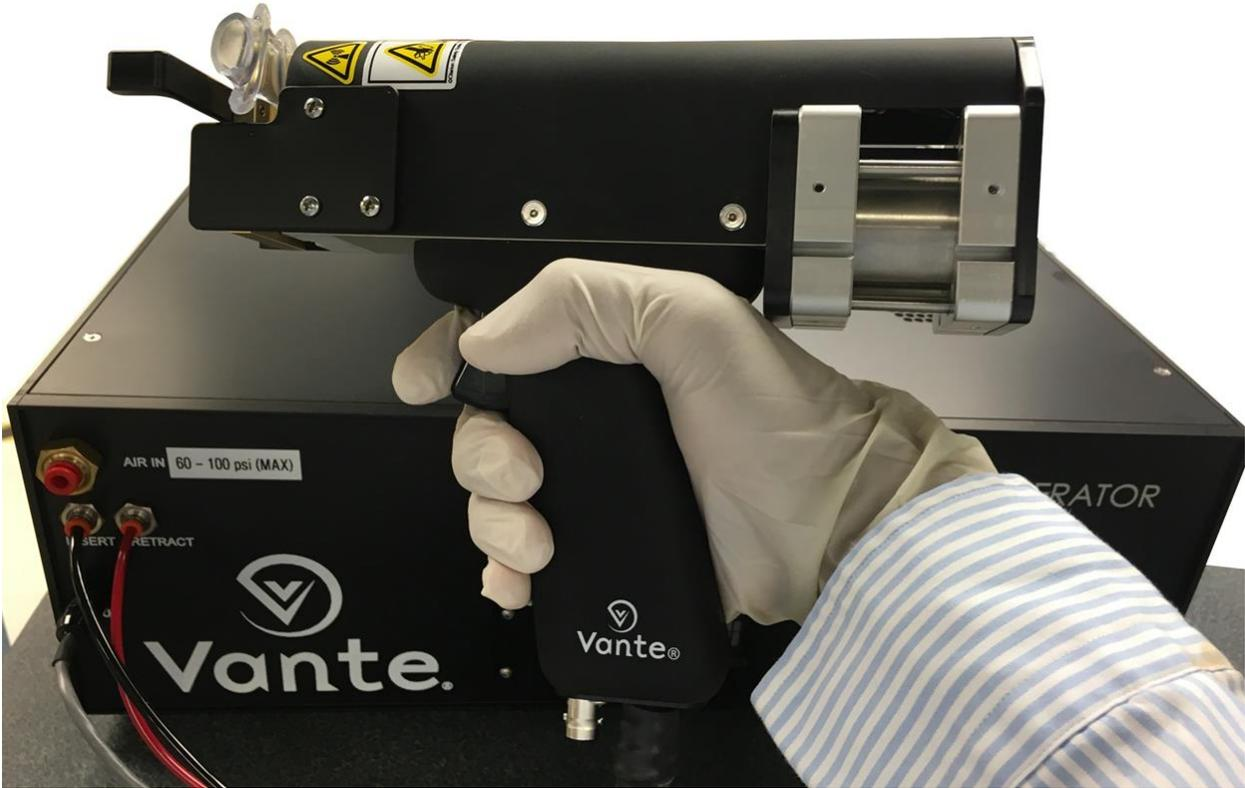

Figure 3.1 Sealer operation
- 3.1.3. Position the materials in the sealer jaws as shown in Figure 3.1. The tube positioner is a visual indicator which helps the operator create consecutive seals with consistent spacing between them. The knob of the tube positioner can be loosened so the positioner can be easily adjusted by the end-user to a desired distance from the sealing region. Then, after the first seal is completed, the operator can visually line the center of that seal up with the radius on the end of the tube positioner. This will set the tube in a position for the next seal to be conducted at the specified distance from the first seal. The range the tube positioner can be set from is 1.75” to 2.5” between seals.